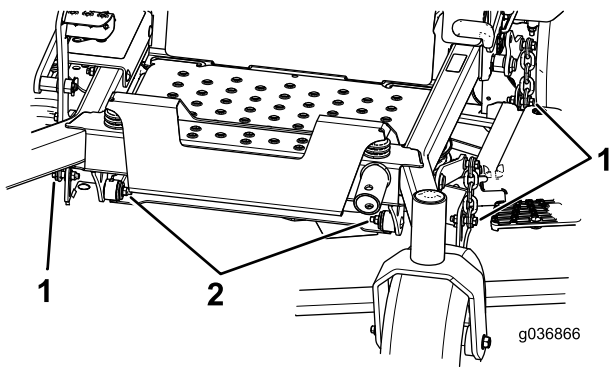

Figure 85
- 7. Remove and retain the bolts and nuts on both sides of the machine (Figure 85).